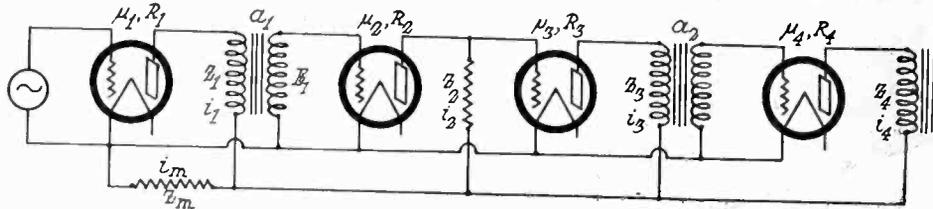

Fig. 5. Detector and Three-Stage A.F. Amplifier.
One more circuit, as shown in Fig. 5, is of interest in connection with this discussion, chiefly because it was used to test the theory qualitatively. The audio frequency amplifier and the detector tube only are shown, although the circuit was a complete five-tube regenerative receiver. It was built by the writer with the greatest care to obtain sensitivity and good quality. It turned out to be an erratic oscillator. Sometimes when it was on good behavior, it performed as well as had been hoped for. Much of the trouble experienced with it could have been avoided had the circuit been analyzed by the method employed in this article, but then much about circuits in general would have remained unknown to the writer. It is not necessary here to go through with the analysis, though it is very simple in this case, but only to set down the result. It is even not necessary to set all of that down, but only the denominator in the expression for amplification, or in the expressions for the various currents. It is (36)  $D=r_1r_2r_3r_4-a_1a_2\mu_3\mu_4Z_1Z_2Z_3Z_m$ , in which  $r=R+Z_a$  the appropriate subscript being used in each case.
In this circuit, Fig. 5, only one 45 volt unit was common to all the audio tubes. When this was new the set would not oscillate. However, when a 10 ohm resistance was inserted in the common lead, the amplifier oscillated violently. When a separate battery was used for the detector and the preceding tubes, the set behaved properly even when this battery was relatively exhausted, because the last two tubes cannot oscillate when  $a_2$  is negative.